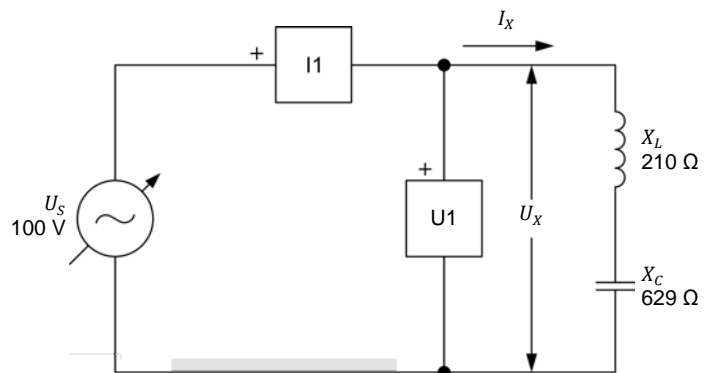

Figure 2-17. Series ac circuit containing an inductor and a capacitor.
14. Make the necessary connections and switch settings on the **Inductive Load** and **Capacitive Load** in order to obtain the values of inductive reactance X_L and capacitive reactance X_C indicated in the circuit of Figure 2-17.